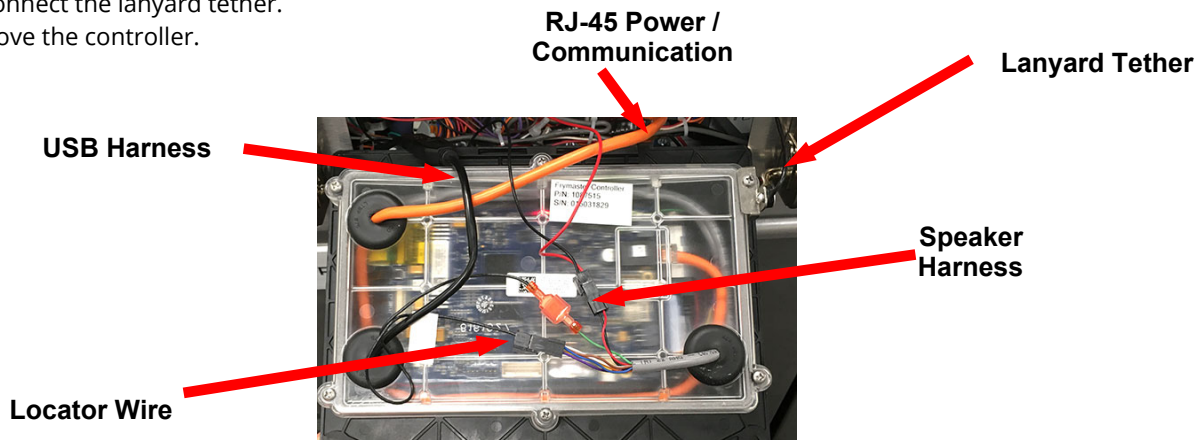

Figure 2
5. Disconnect the RJ45 cable from the SIB board **FIRST** (see Figure 2).